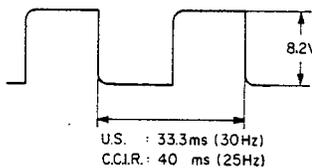

Fig. 6
- (1) Connect Oscilloscope to TP-2 and confirm that the waveform obtained is as shown in Fig. 6.